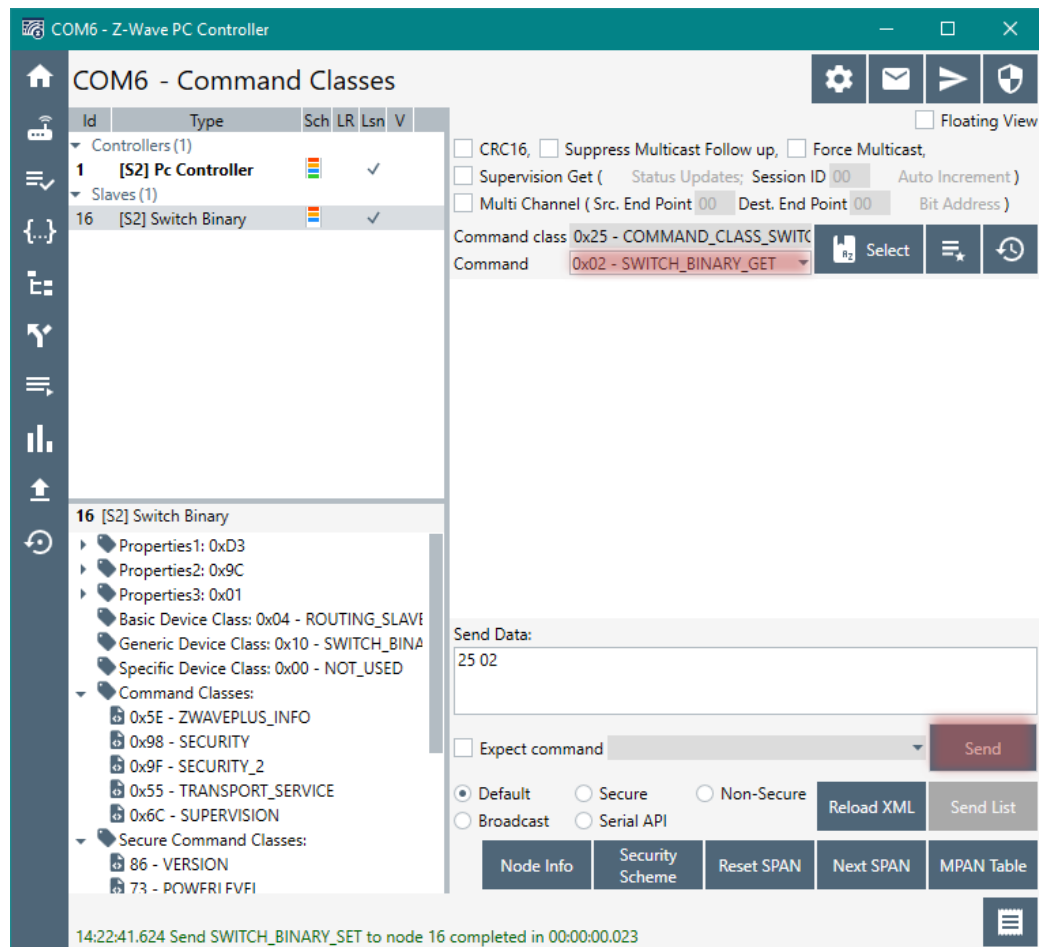

Figure 23: PC Controller, Command Classes View—Send Switch Get Command
- 8) Send a Get Command to verify the switch was set accordingly. Refer to Figure 23.